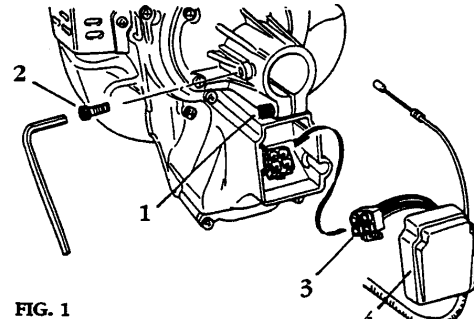

FIG. 1
- (FIG. 1) Remove location bolt (2) and loosen shaft tightening bolt (1) with the allen head wrench.
- (FIG. 1) While holding engine over the shaft pipe, connect the electrical coupling (3) from the wiring harness to the engine.
- (FIG. 1) Place the dust cover (4) over the casing which holds the electrical couplings.